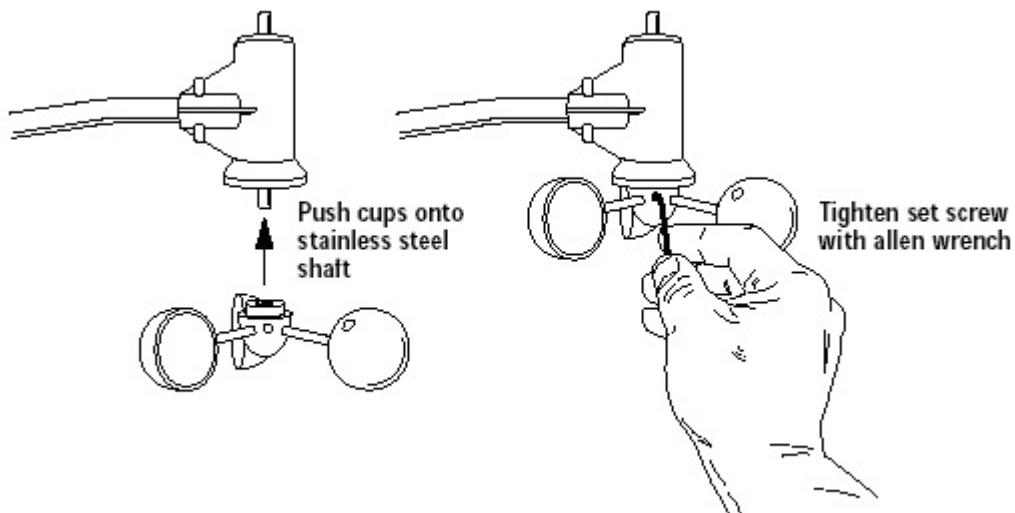

Figure 9: Installing the wind cups
- A. Push the wind cups onto the stainless steel shaft at the end of the arm (see Figure 9).